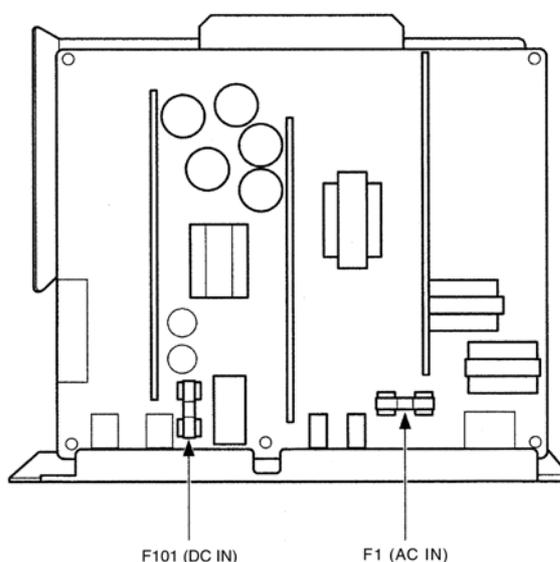

Figure 4-42 PSU Fuse Replacement
3. Replace the fuses as necessary. Refer to *Figure 4-42 PSU Fuse Replacement*. F1 is a 250V, 2.5A fuse for AC input. Fuse F101 is a 125V, 10A fuse for DC input.